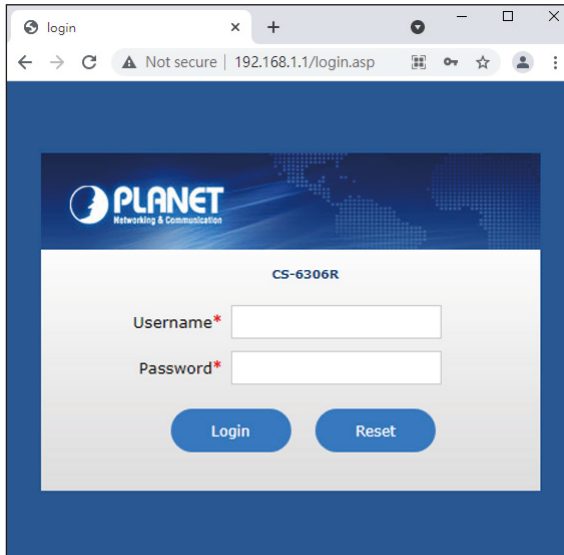

Figure 7-2 Web Login Screen
2. When the following dialog box appears, please enter the configured user name **"admin"** and password **"admin"** (or the username / password you have changed via console). The login screen in Figure 7-2 appears.